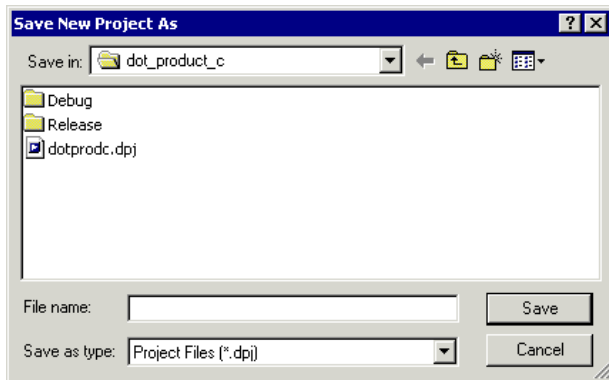

Figure 2-10. Save New Project As Dialog Box
2. From the **Project** menu, choose **New** to open the **Save New Project As** dialog box, shown in Figure 2-10.